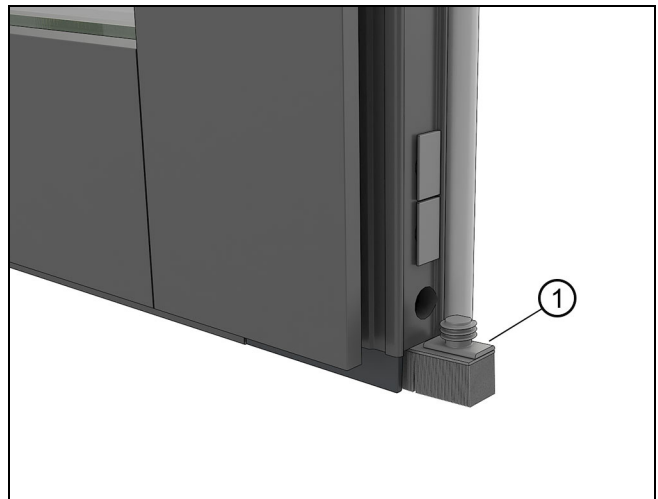

Figure 140
4. On inactive panels meeting stile side, pry the lower plug and dust cover down to reveal the adjustment hole. See Figure 140.